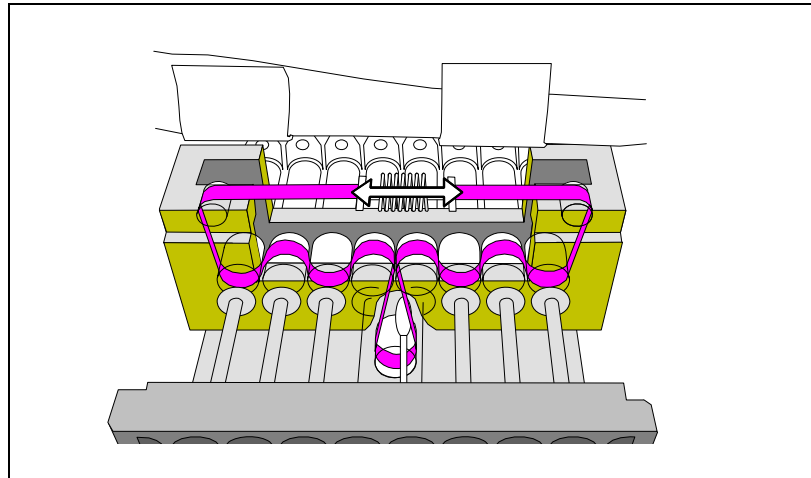

Figure 18-17. HYDRA Theta belt.
- Clean the Theta belt at the motor shaft using a cotton wool bud slightly wet in alcohol, see Figure 18-17. Move the belt by gently dragging the belt spring as shown by the arrow.